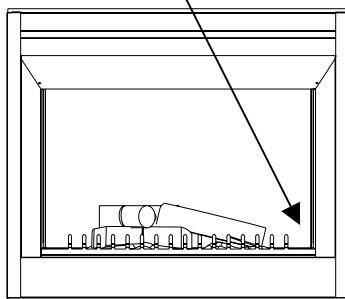

FIGURE 4
2. Access the manual controls, (remove glass doors if applicable) pull the right hand steel curtain to the side of the unit. (FIGURE 4)